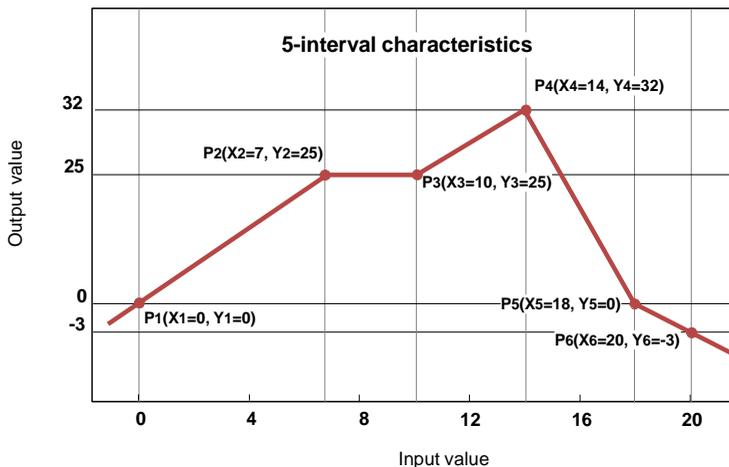

Fig. 7.39. Example of user characteristic
- d) **user char.** - is defined as a set of X-Y points. The number of the points is variable and may be set from 2 to 20 points which create linear segments (see **Fig. 7.39**). After choosing this option, the following parameter appears:
,where '**slope**' and '**offset**' are the coefficients of a segment contained between two points (see **Fig. 7.39**), and **n = 1, 2 ..** is the number of the segment.
The steps to create a user characteristic consisting of 6 points (like in **Fig. 7.39**):